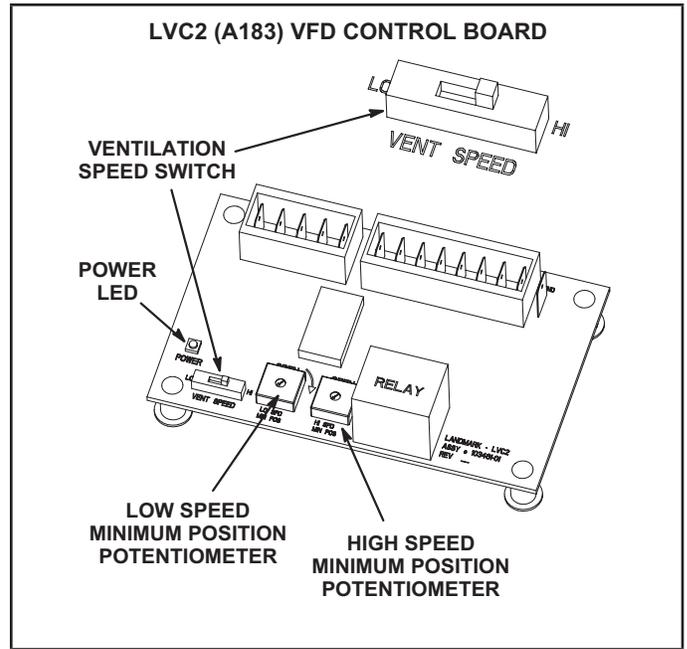

FIGURE 32
To maintain required minimum ventilation air volumes when the unit is in the occupied mode, two minimum damper positions must be set. A high and a low speed potentiometer are provided on the VFD control board to adjust minimum damper position. See FIGURE 32.
- 5 - Check the power LED on the board. See FIGURE 32.
- 8 - When LVC2 24VAC thermostat blower (G) input and 24VDC power are present, check the LVC2 low and high speed outputs. The LVC2 uses inverse logic to enable the blower; 1VDC will be read at the enabled blower speed terminal. See TABLE 17.